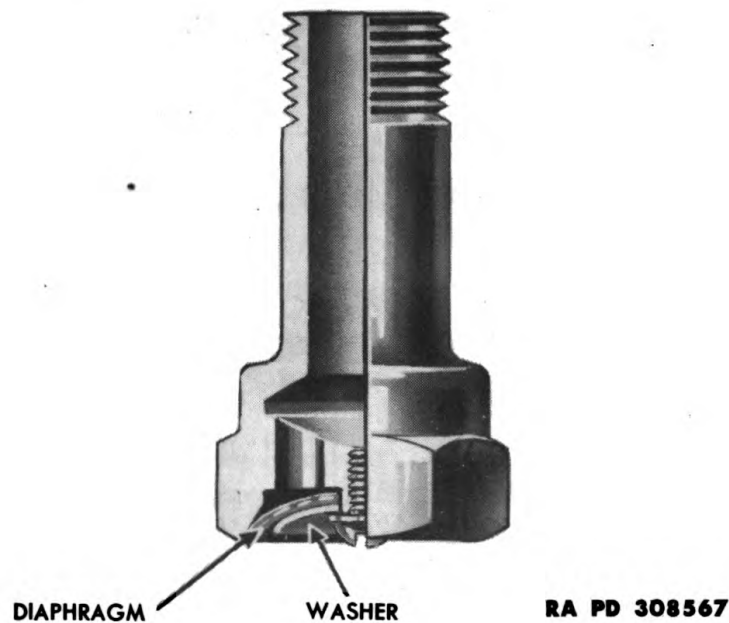

Figure 27—Exhaust Check Valve—Sectional View
(2) **AIR PRESSURE EXHAUST.** Release brakes and check to be sure air pressure is exhausted promptly from the exhaust port of the relay emergency valve through the exhaust check valve (fig. 27).
(1) **EXHAUST PORT.** With the brakes released, coat the exhaust check valve (fig. 27) of the relay emergency valve with soap suds to determine leakage of air past the supply valve, or the upper seal of the emergency diaphragm.